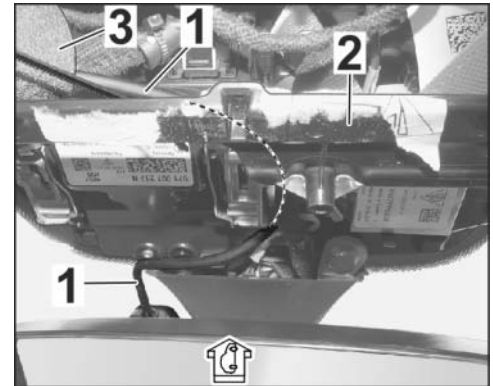

Figure 12
2.3.2 Guide wire harness for front camera (dashcam) below headliner frame to roof console. ⇒ *Figure 12*